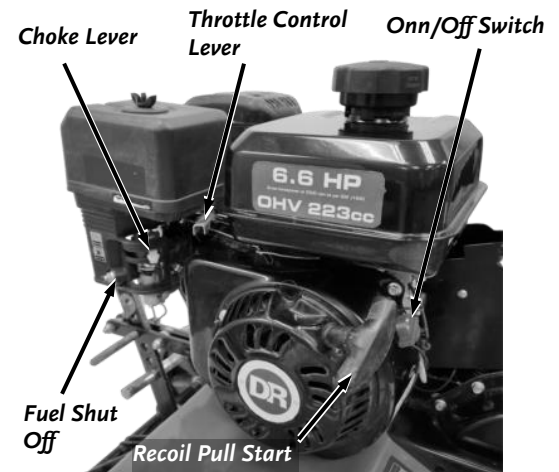

Figure 10
5. Ensure the Fuel Shut-Off is in the "ON" position (**Figure 10**).
3. Move the Throttle Control Lever to the Right so it is in the Idle position (**Figure 10**).